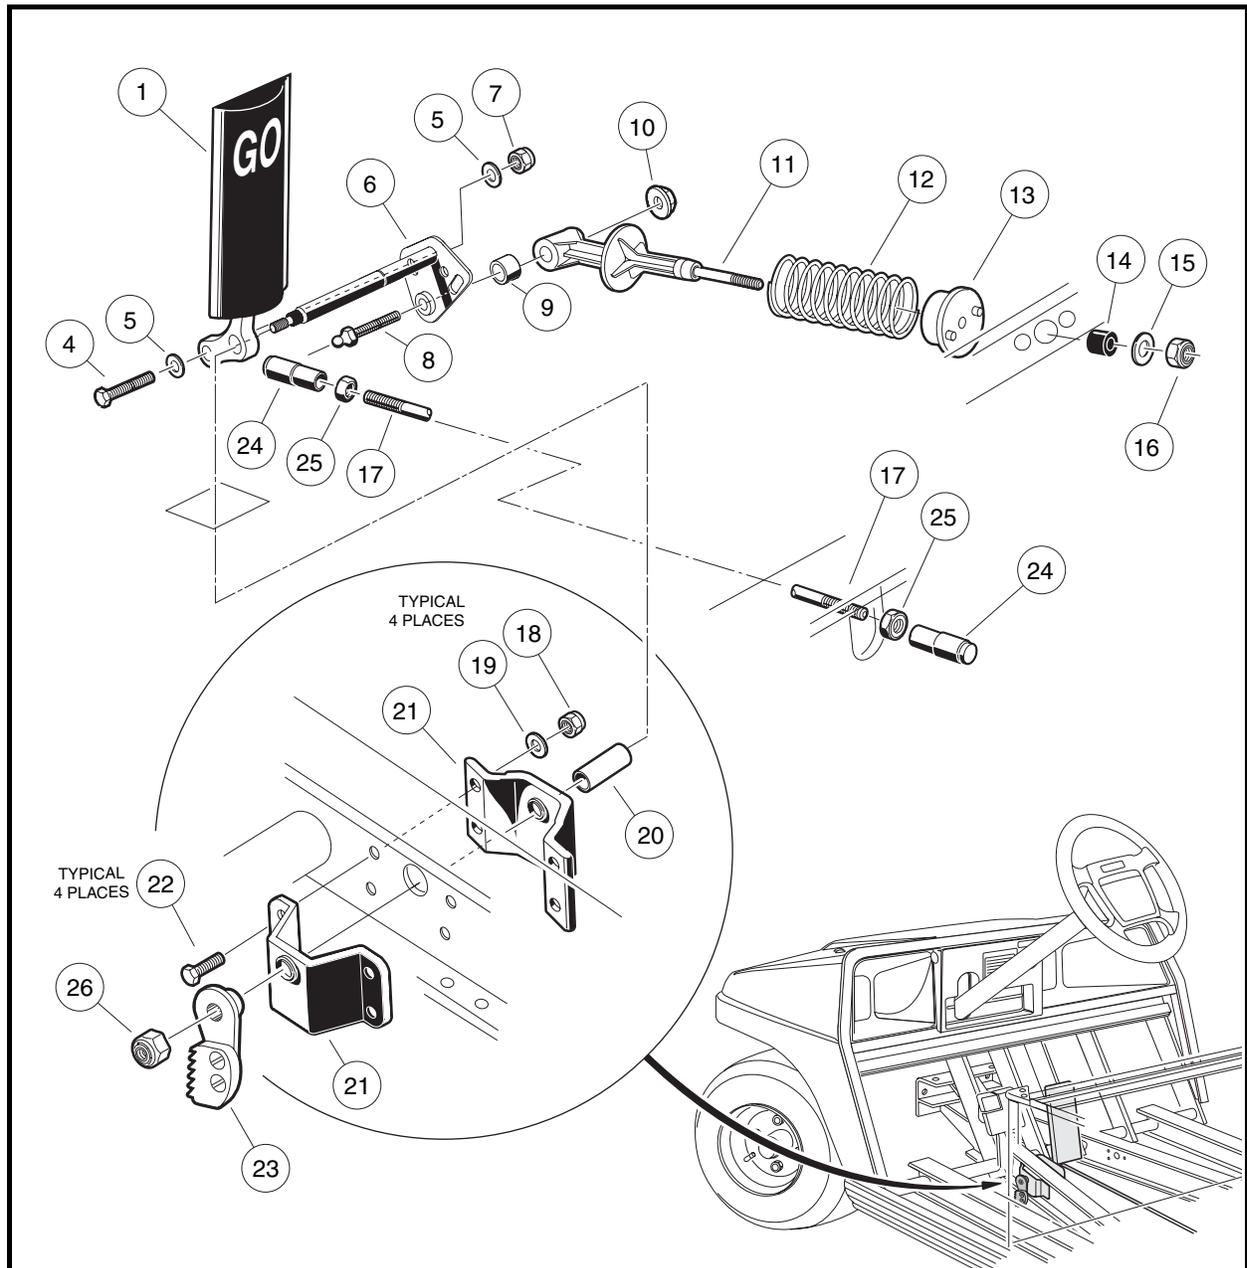

Figure 5-6 Accelerator Pedal – Gasoline Vehicles
3. Disconnect the accelerator rod assembly (17, 25, and 24) (**Figure 5-6, Page 5-7**) at the front and rear ball studs and remove it from the vehicle.
4. Use a 9/16-inch socket and 9/16-inch wrench to remove the nut (7), two washers (5), and bolt (4) securing the accelerator pedal (1) to the pivot rod (6).
5. Remove the nut (10) and ball stud (8) from the accelerator pivot rod assembly (6).
6. Slide the spring retainer (11) off of the accelerator pivot rod.
7. Inspect the pivot support bearing (9) for wear and replace if necessary.
8. Use a marker to mark the position of the park brake ratchet (23) on the accelerator pivot rod (6). See following **NOTE**.
9. Remove the lock nut (26) from the accelerator pivot rod (**Figure 5-6, Page 5-7**).
10. Press the brake pedal slightly and slide the park brake ratchet (23) toward the end of the accelerator pivot rod. Rotate the ratchet and remove it from the pivot rod.
11. Remove the pivot rod (6) and spacer (20) from the accelerator pivot rod supports (21).
12. Inspect the accelerator pivot rod supports (21) for wear and damage and replace if necessary. If the pivot rod supports do not require replacement, loosen, but do not remove, the four bolts (22) and lock nuts (18) to make installation of the pivot rod easier.
13. Remove the accelerator pedal (1) from the vehicle.
1. If the accelerator pivot rod supports were replaced, position the supports (21) on the vehicle frame and install the four bolts (22), flat washers (19), and lock nuts (18). Finger-tighten nuts at this time **(Figure 5-6, Page 5-7)**.
2. Insert the lower end of the accelerator pedal (1) through the floorboard and install the accelerator pivot rod (6) through the uppermost hole in the pedal.
3. Install the plastic spacer (20) on the pivot rod (6).
5. Tighten the four bolts (22) attaching the pivot rod supports to the frame to 75 in-lb (8.5 N·m).
6. Install the bolt (4), two washers (5), and a new lock nut (7) through the lower hole in the pedal and through the pivot rod. Finger-tighten nut at this time.
7. Install the ball stud (8) through the pivot rod. Install the spring retainer (11) onto the ball stud. Secure these parts with the nut (10) **(Figure 5-6, Page 5-7)**. Tighten the nut to 50 in-lb (5.7 N·m).
11. Install the nylon lock nut (26) on the pivot rod and tighten the nut to 18 ft-lb (24 N·m) **(Figure 5-6, Page 5-7)**.
12. Install the accelerator rod assembly (17, 25, and 24) **(Figure 5-6, Page 5-7)**.